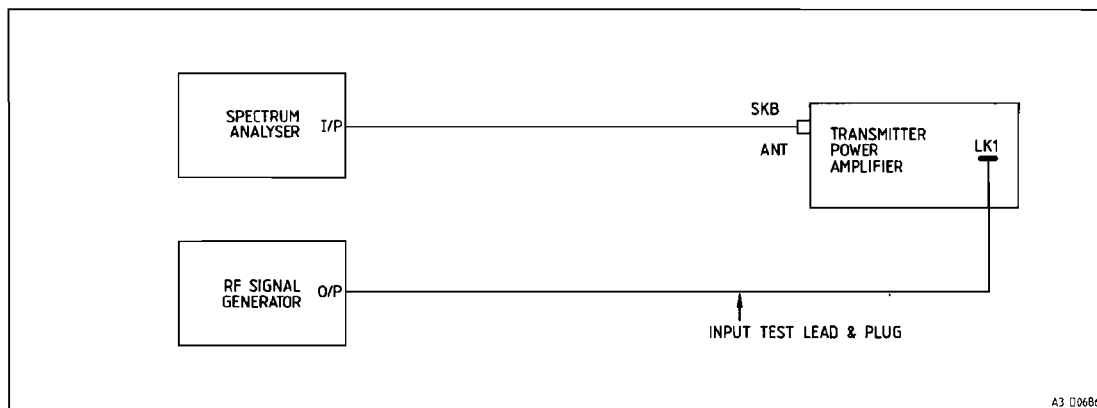

Fig.2 Antenna Filter Test Circuit - Direct Sweep
6. Connect the test equipment as shown in Fig.2 and sweep the filter directly. The attenuation at 264MHz (A and B bands), 350MHz (K band) should be greater than 55dB.